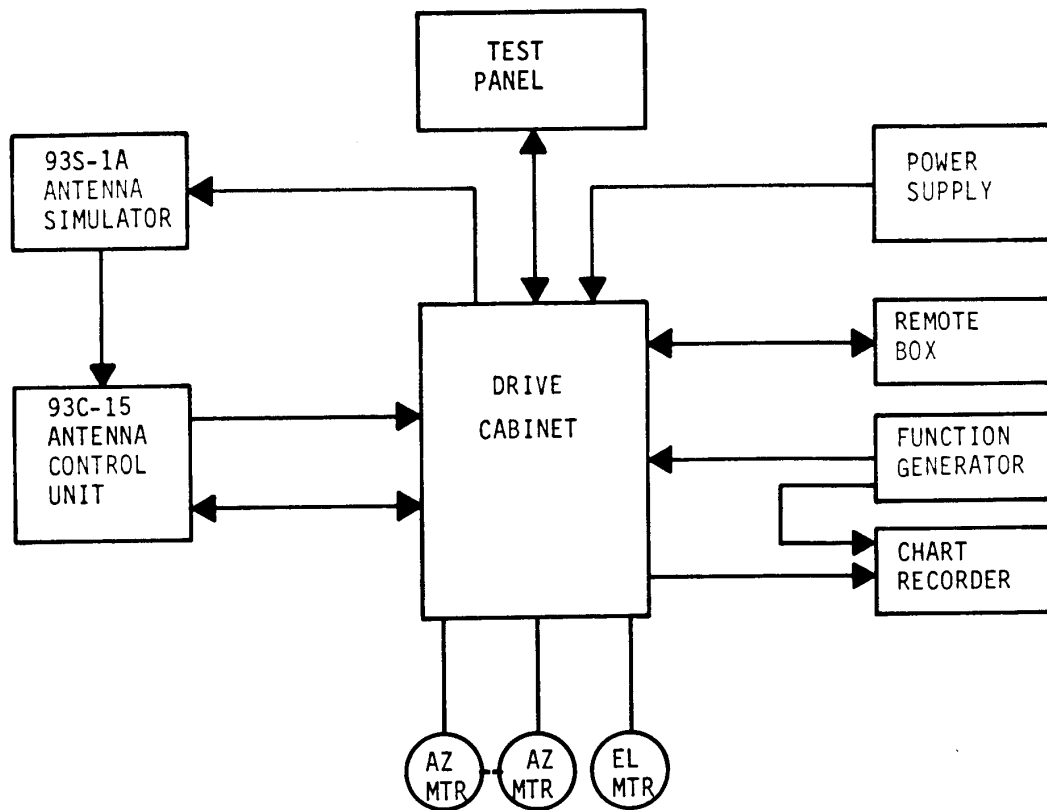

FIGURE 1
4.2.1 Refer to the following block diagram Figure 1 for the preliminary test setup.